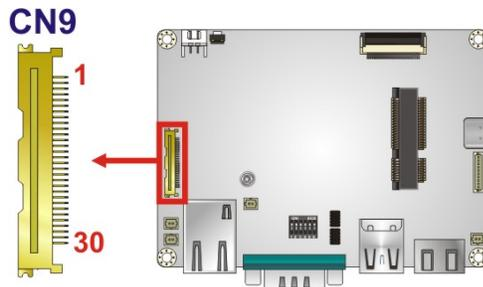

Figure 3-8: eDP Connector Location
- CN Location:** See **Figure 3-8**